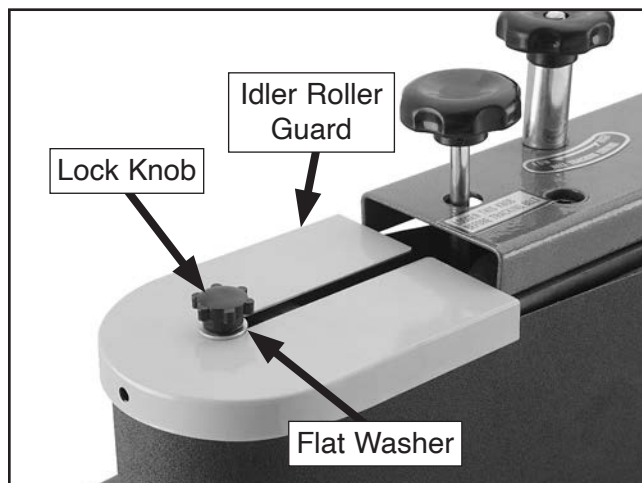

Figure 13. Idler roller guard installed.
10. Install the idler roller guard onto the left end of the sander with the pre-installed $\frac{1}{4}$ "-20 lock knob and $\frac{1}{4}$ " flat washer, as shown in **Figure 13**.